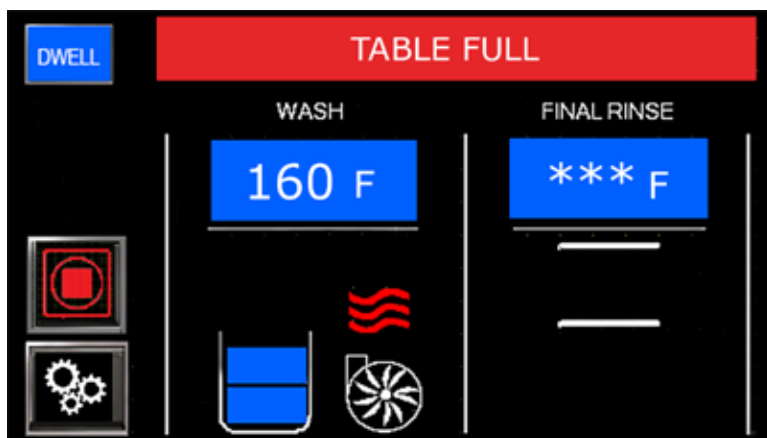

Fig. 89 - Status bar displays "TABLE FULL" as rack is loaded.
- 2 Load dish rack into machine. The status bar displays "TABLE FULL" as the rack is loaded, Fig. 89. The status bar disappears as soon as the dish rack is against the rear track. The pumps and conveyor run.